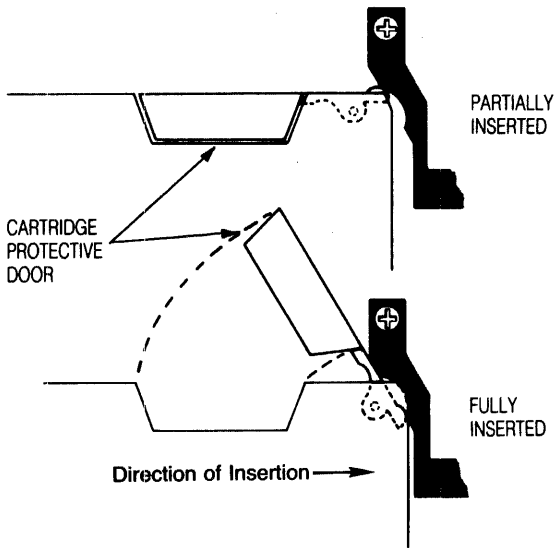

Figure 3.6 Protective Door
- A protective door swings open as the cartridge is inserted. (Figure 3.6)